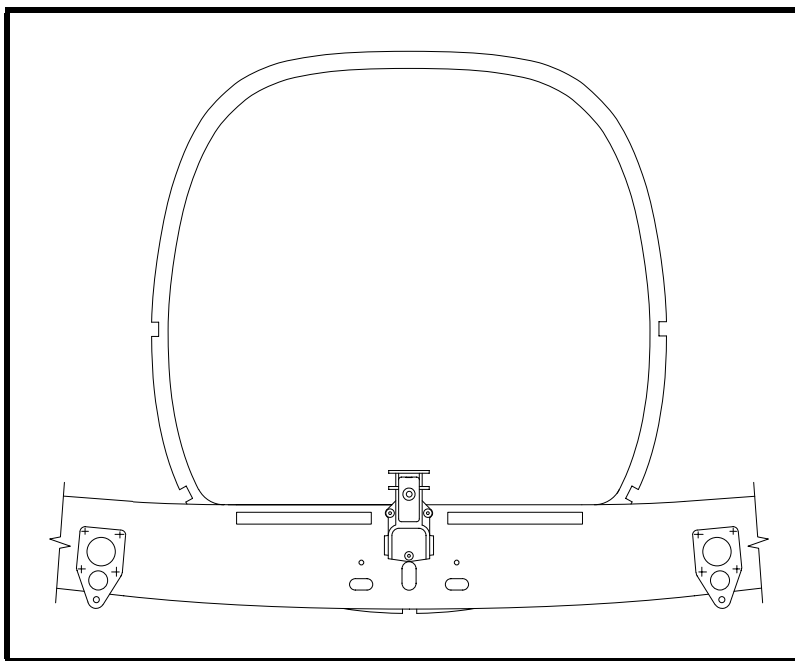

Figure 12
- ❑ For the wheel well door installation—install the 25x25 spruce triangle for the 30x15 and 60x15 seat track supports on the aft face of the main wing spar. See Figure 12. The locations for the seat track supports are shown at fuselage frame No. 5 on Drawing No. 310, and these same dimensions are used for the aft face of the main wing spar. Drawing No. 102 also shows a good view of this triangular strip.